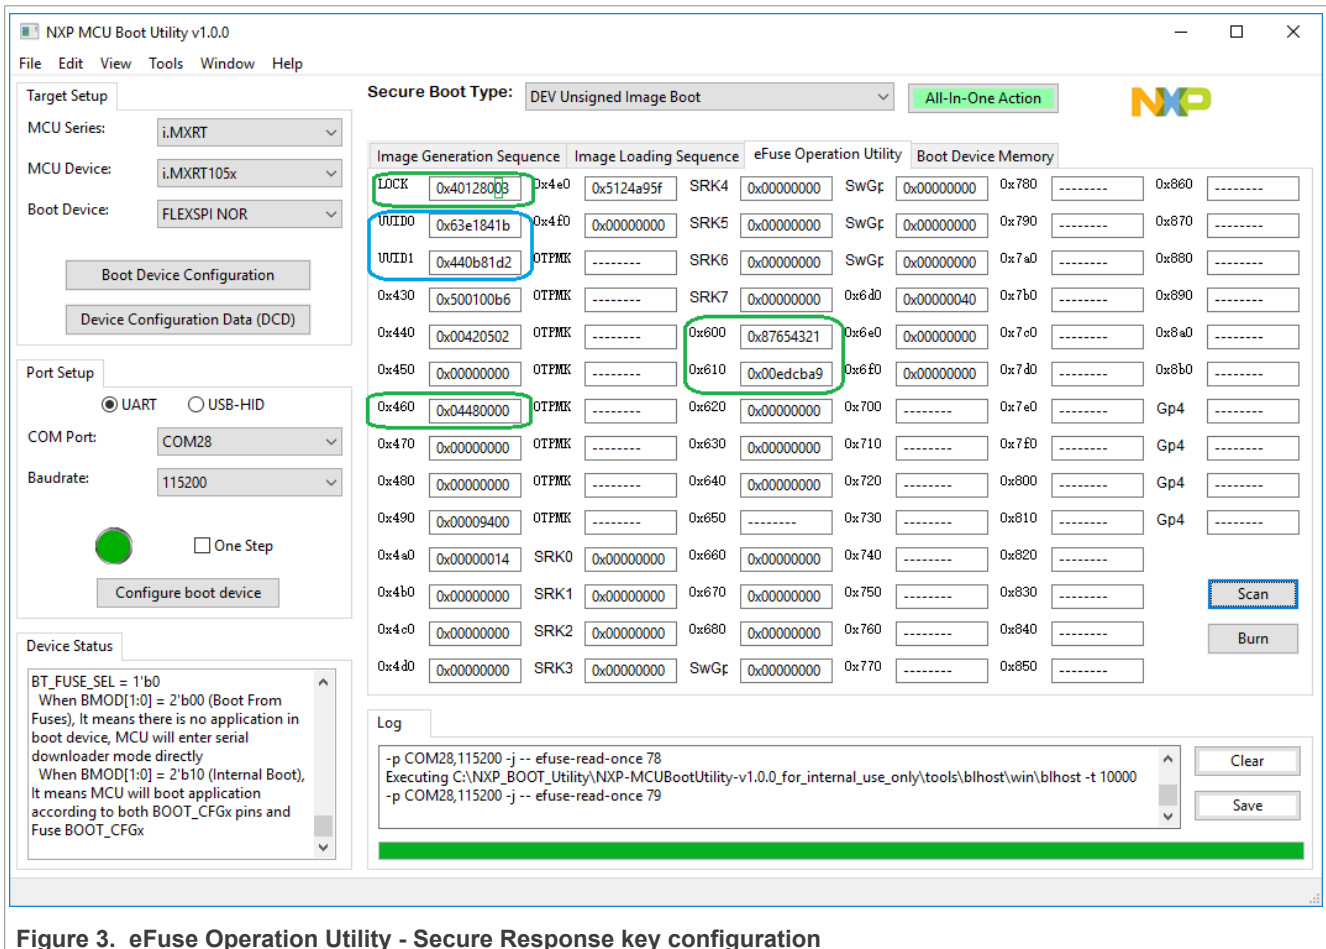
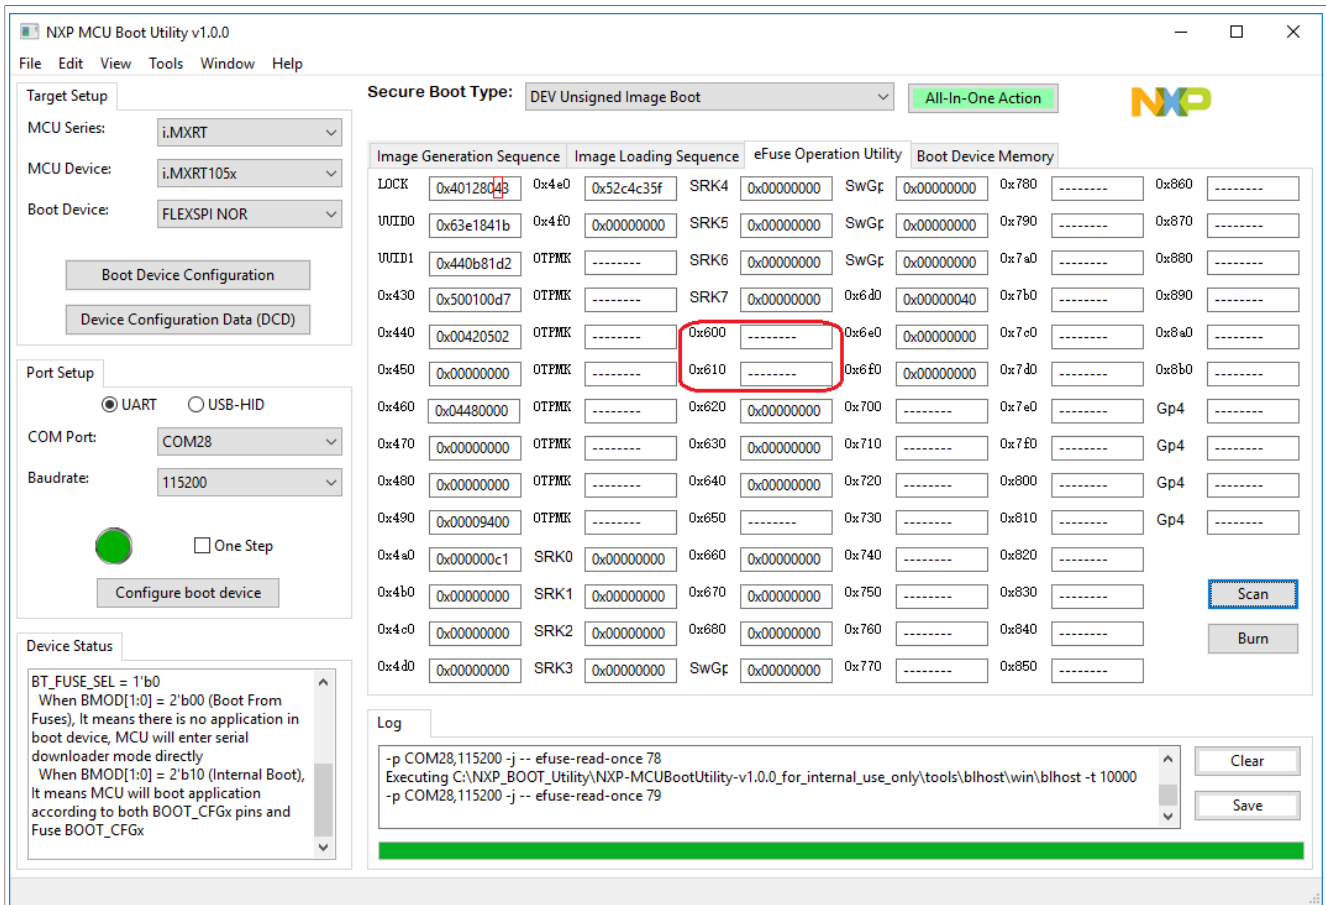

Figure 3. eFuse Operation Utility - Secure Response key configuration
Figure 4. eFuse Operation Utility – Secure Response key lock
- Read and back-up the 64-bit “Challenge” value stored in the eFuse UUID[1,0], location (0x420, 0x410). See Figure 3.
Note: In Figure 3, MSB is stored on the higher address, while the most-left byte is 0x00 and it is ignored. Define the own response key and keep the key backup for further usage.
- Finally, the user must program 0x1 in the eFuse SJC_RESP_LOCK to disable read/write access of the secret response key. After this operation, the secret response field “SJC_RESP” becomes “invisible” in the fuse map. See Figure 3 and Figure 4.
To have the Secure JTAG enabled, follow the steps mentioned above in Section 3.1 and refer to Table 2, Figure 3 and Figure 4 for more details about the appropriate eFuse bits.